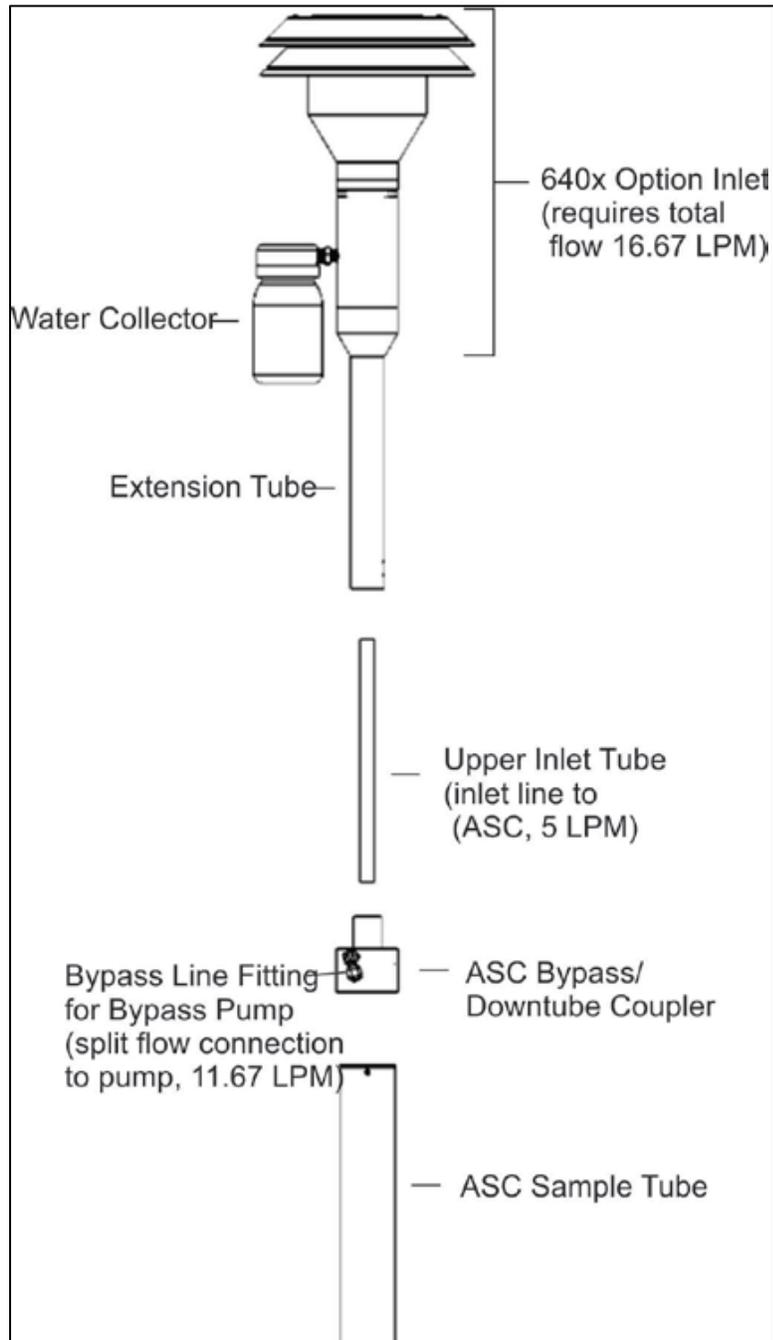

Figure AR-42 TAPI T640X Sample Inlet Configuration
- i. Remove the Bypass Flow Tube (line) from the Aerosol Sampler Conditioner (ASC) sample tube and cap the Bypass Tube fitting with a Swagelok cap. See Figure AR-42 for component identification.